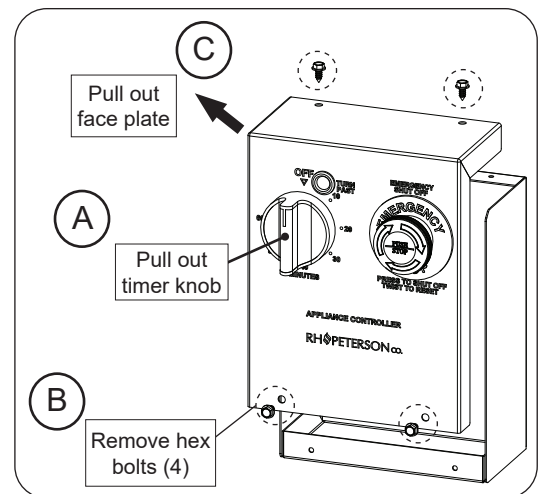

Fig. 3-1 Remove face plate
1. Unscrew the $\frac{3}{32}$ " set screw (found on left side of knob stem) then pull out the timer knob and set aside. See Fig. 3-1, A.
2. Using a $\frac{1}{4}$ " socket driver or wrench, remove the four hex bolts from the top and bottom of the control (Fig. 3-1, B).
3. Pull the face plate outward as shown in Fig. 3-1, C.